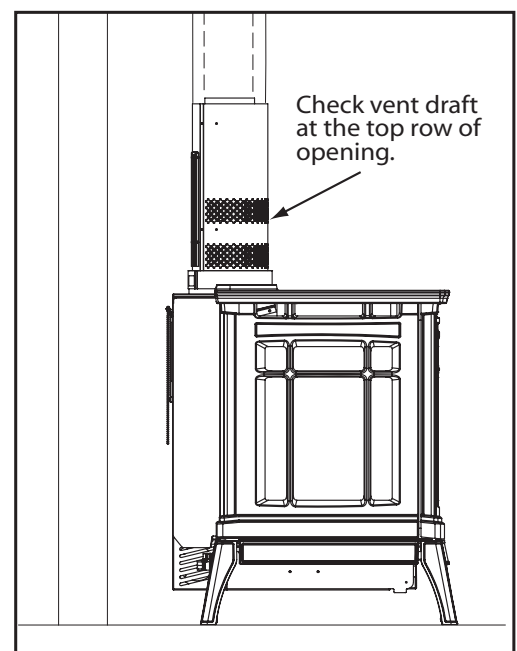

Figure 36: Draft test place.
4. After a minimum of 10 minutes operation, test the chimney draft with a smoke match at the top row of the pattern to confirm that there is adequate draft or 'pull' at the openings around the body of the Drafhhood Adaptor, as shown in Figure 36.